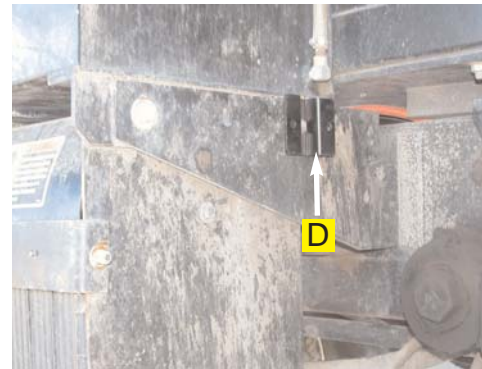

Figure 2b. Installed mounting bracket.
- b. Attach the Automated Steering Block mounting bracket (D) to the battery case support using the existing bolt as shown. (Figure 2b.)